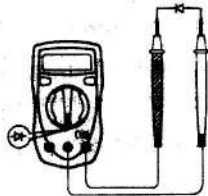

Figure 5
**5. Diode and Continuity Measurement (Figure 5)**